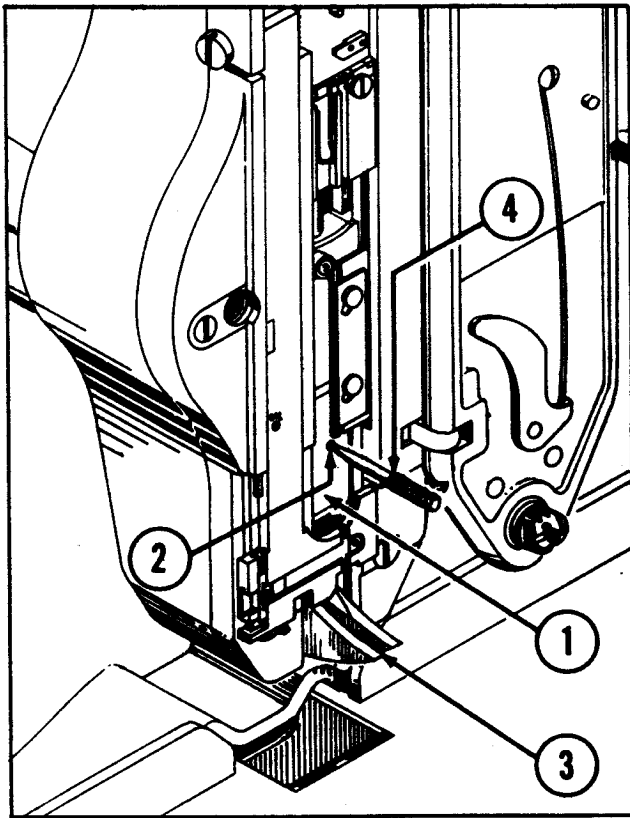

Figure 13—Removing Driver
- a. Disengage the moveable wire grip spring (2) from the moveable wire grip (3).
- b. Remove the wire grip retaining screw (4) permitting the removal of the fixed wire grip (1) from the grip holder (5).
4. HOW TO REMOVE DRIVER (See Fig. 13.)